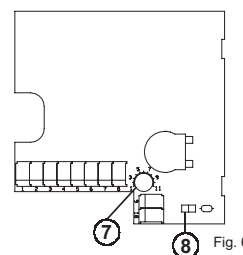

Fig. 6
Through trimmer (7) of Fig. 6 the user is allowed to adjust the neutral zone width between 1°C and 11°C as indicated on the circuit board.
It is possible to connect a remote sensor (optional) in place of the internal one (factory supplied). In order to activate the external sensor, wire it at terminals 9 and 10 and then remove the jumper (8) located on the circuit board (Fig. 6).